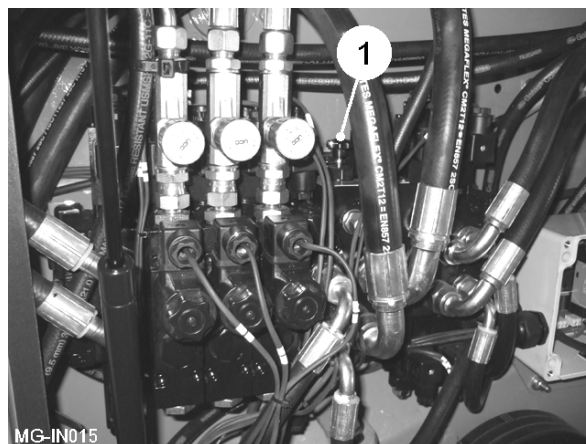

Fig 3
The main hydraulic valve bank, situated behind the rear LH guard of the machine, incorporates an adjustable screw (item 1, fig 3) which enables easy changing from closed to open centre and vice versa. For closed centre configuration tractors, turn the screw clockwise until fully closed. For open centre, turn the screw anticlockwise until fully out.